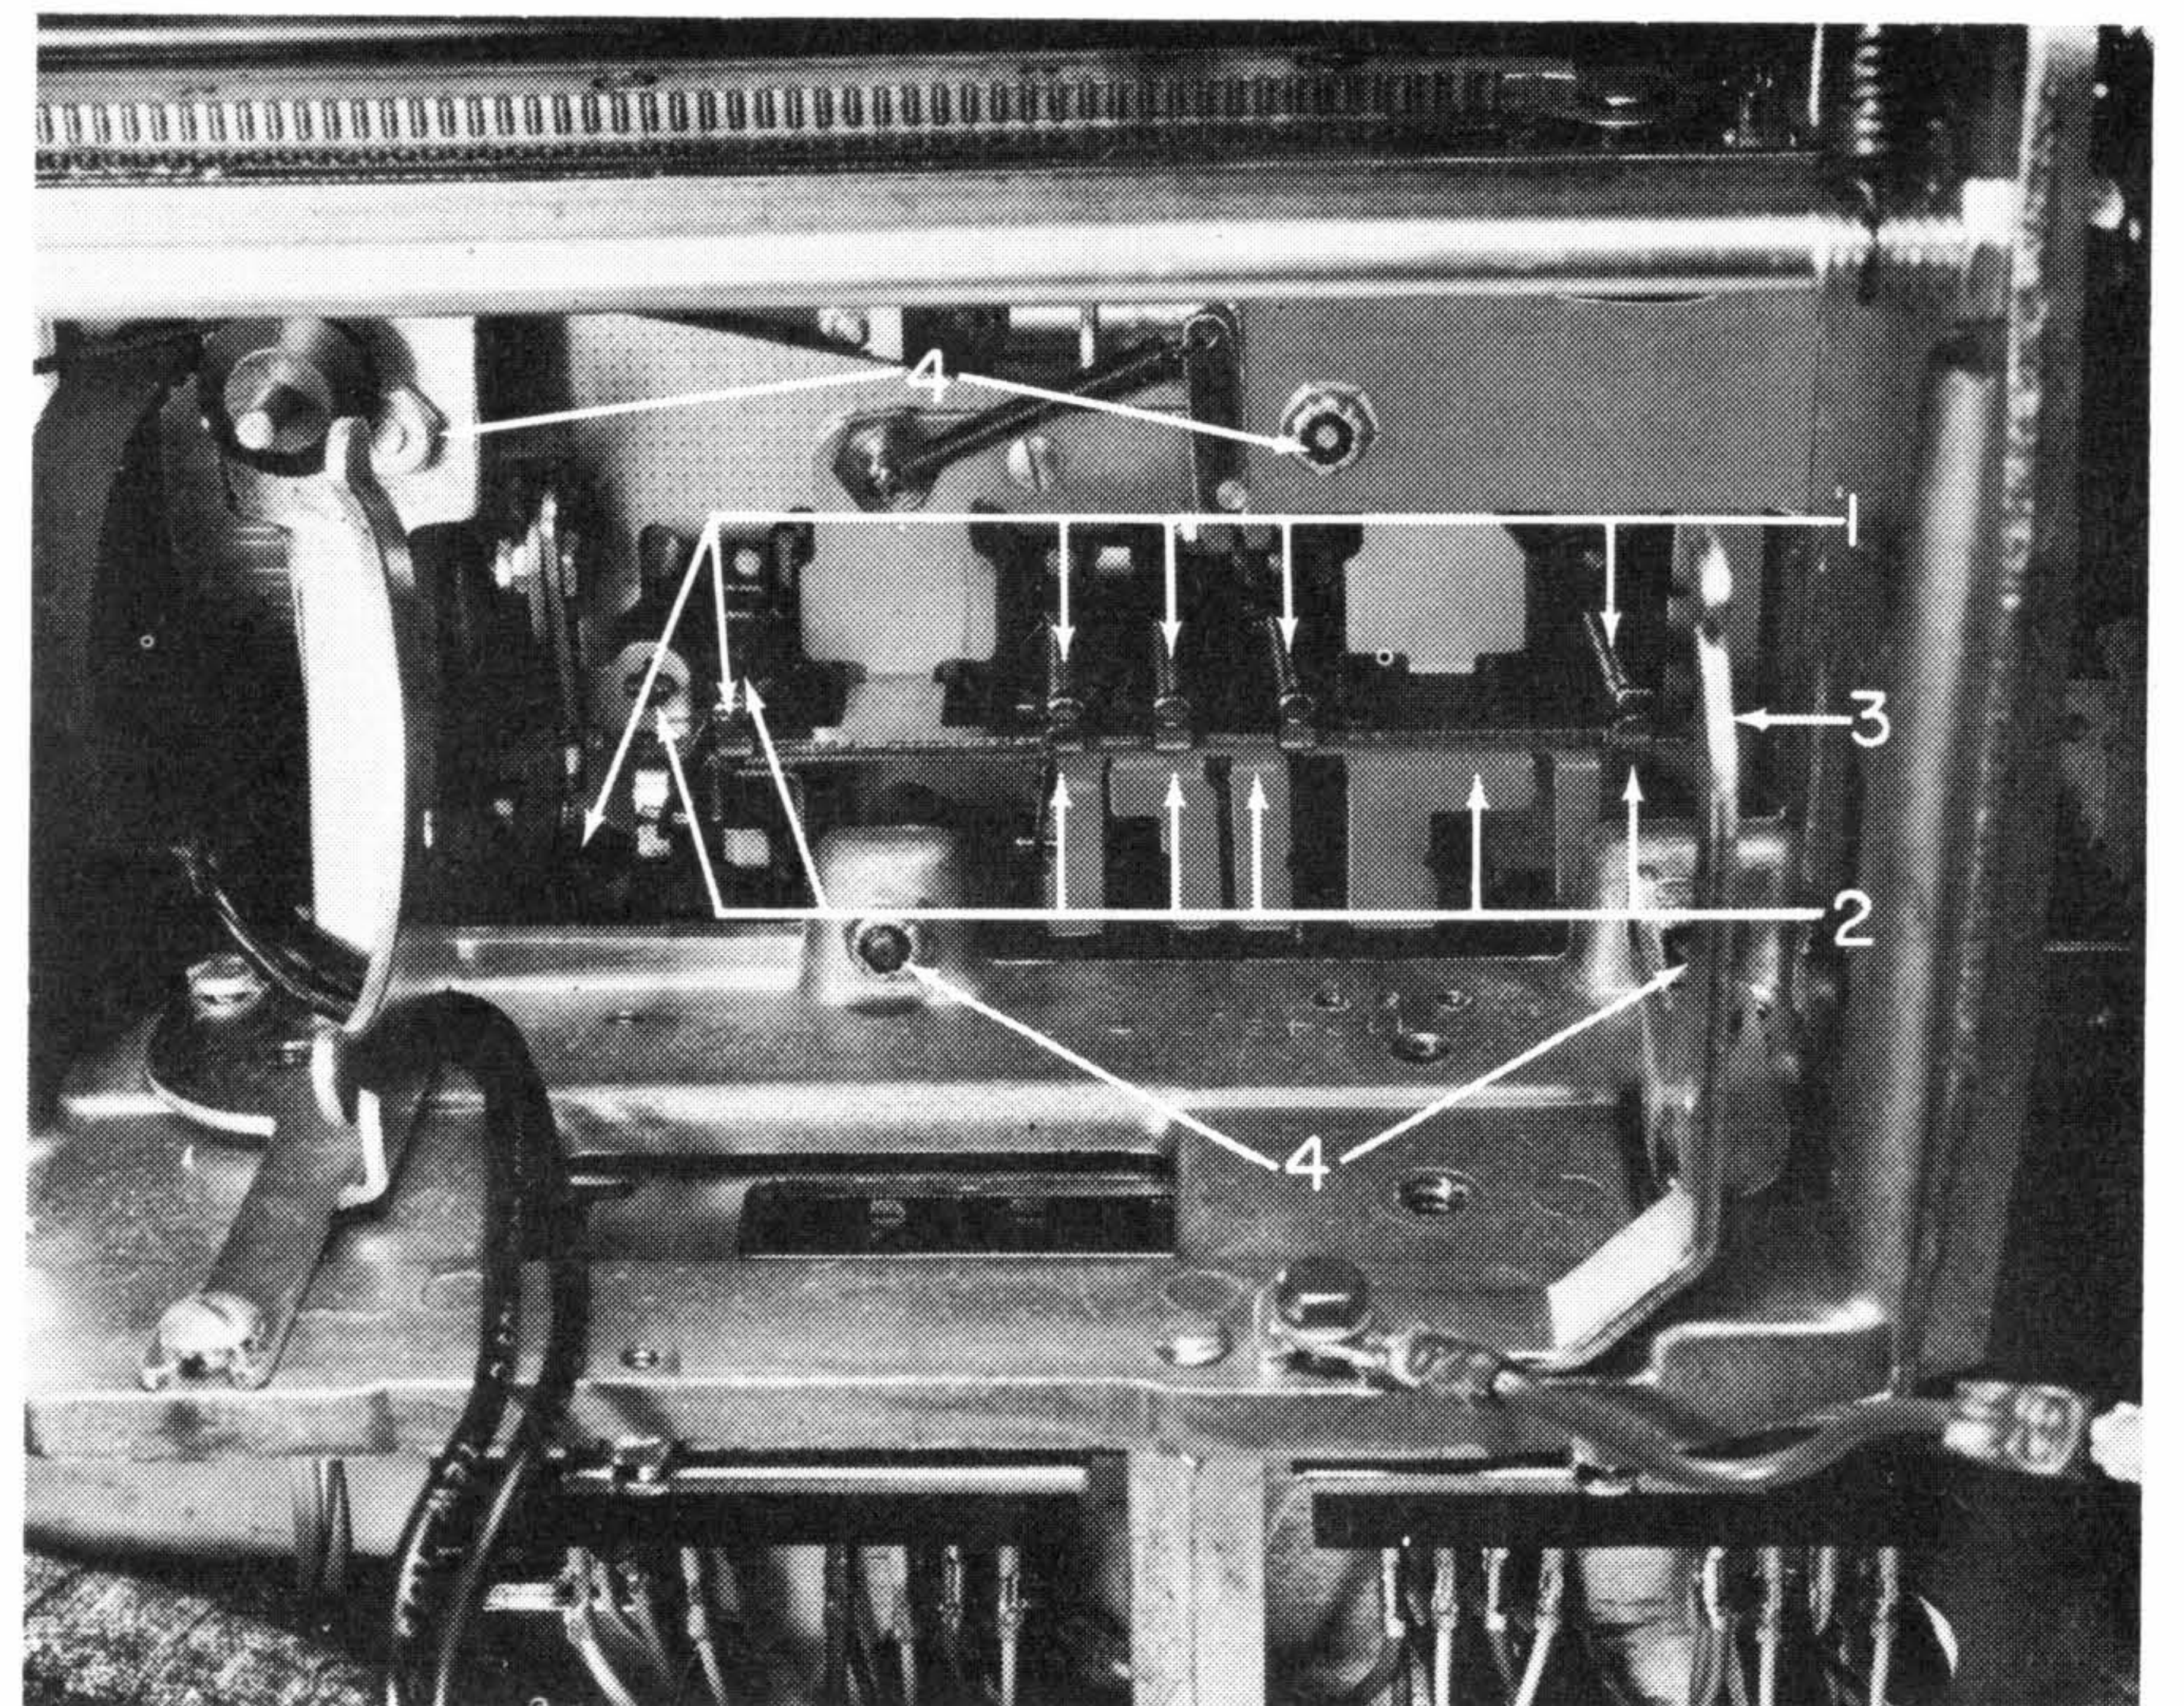

Figure 31. Differential Plate Removal
12. Remove all latch springs (#1, Figure 31).
13. Remove all latch links (#2, Figure 31).
14. Remove the left-hand motor mount (#3, Figure 31).
15. Remove the four differential mounting nuts (#4, Figure 31). Note: Do not lose the wedge in the lower-left mounting stud.